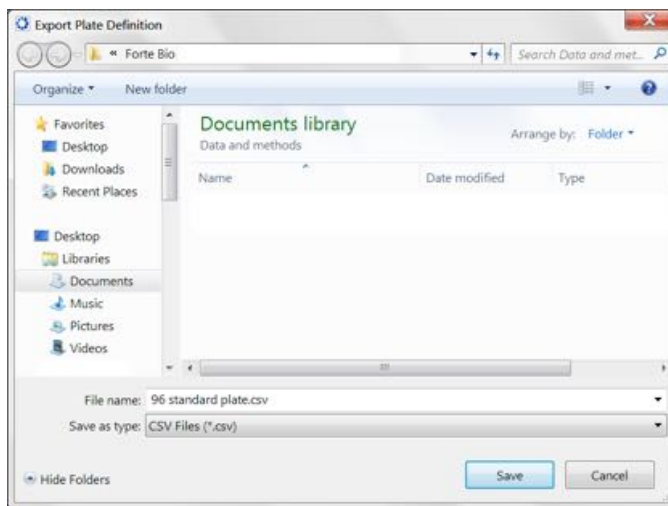

Figure 9-20: Export Plate Definition Window
2. In the **Export Plate Definition** window (see Figure 9-20), select a folder, enter a name for the plate (.csv), and click **Save**.